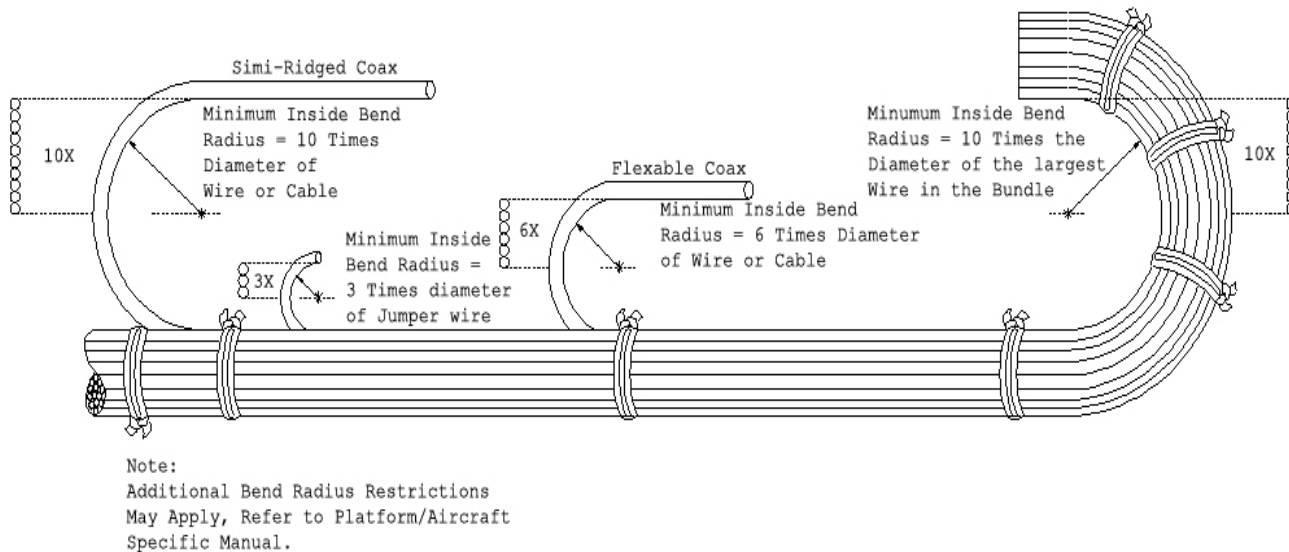

Figure 8. Bend Radius
17. **RADIUS OF BENDS.** The bend radius should be kept as large as possible during storage, handling, and installation so as not to damage the cable. The minimum bend radius shall be such as not to adversely affect the characteristics of the cable. Refer to Figure 8, and WP 004 00, 005 00 and 010 00 for additional information.